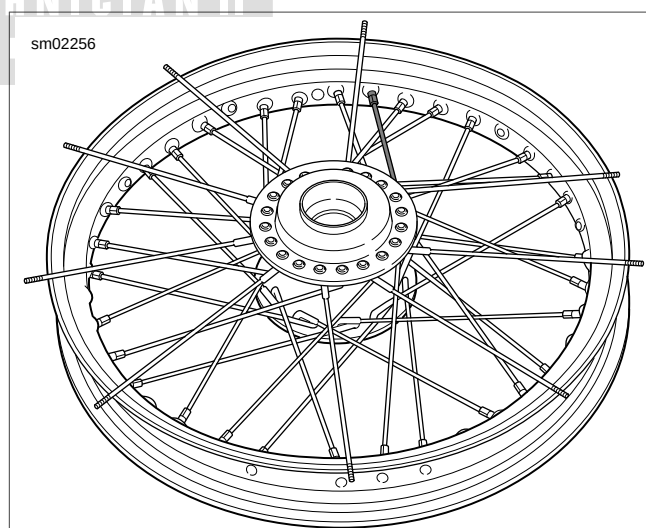

Figure 2-42. Beginning Spoke: Top Flange Outer
18. See Figure 2-42. Finish with top flange outer spokes (short head). Point the top flange outer spokes (short head) counterclockwise and make sure each one crosses four inner spokes before securing it to the rim.